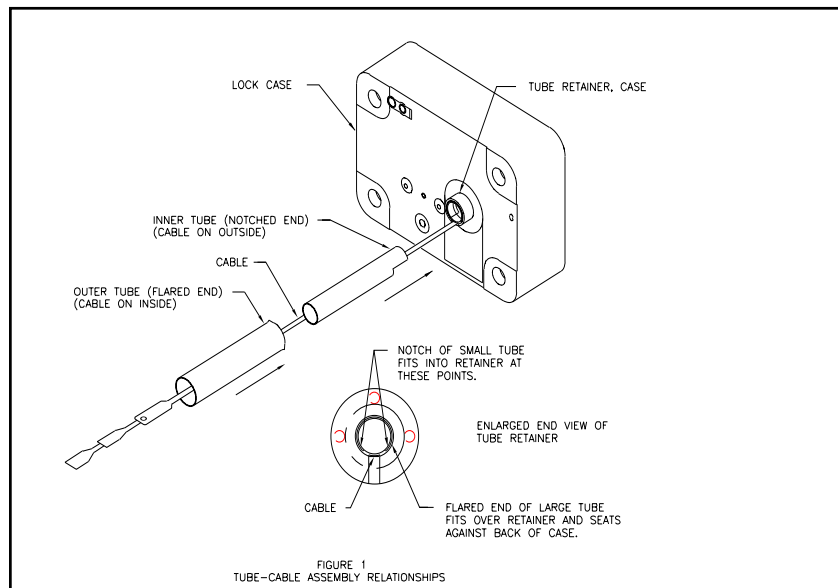

Figure 1- Tube-Cable Assembly Relationships
3. Feed the cables through the outer, larger, tube starting from the flared end of the tube. Seat the tube into position on the tube retainer on the back of the lock case assembly. (See Figure 1 on previous page) Be careful to keep the cables pulled taut while seating the tube to avoid pinching damage to them.
2. Feed the cables through the outer (larger) tube from the flared end. Seat the tube into position on the tube retainer on the back of the lock case assembly. (See Figure 1 on page 4) Be careful to keep the cables pulled taut while seating the tube to avoid pinching damage to them.